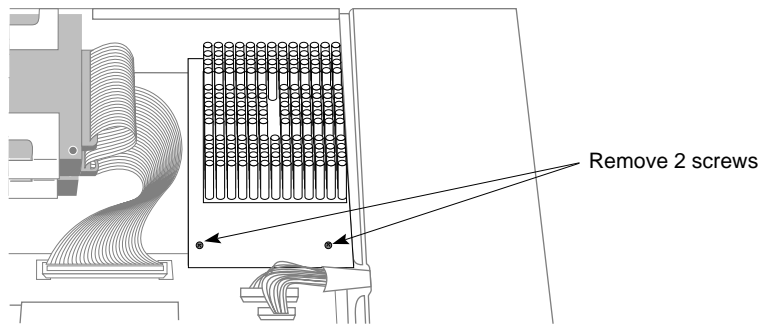

Figure 9-12 Removing the Two Screws From the CPU Module
6. Remove the two screws that connect the CPU module to the system board, as shown in Figure 9-12.